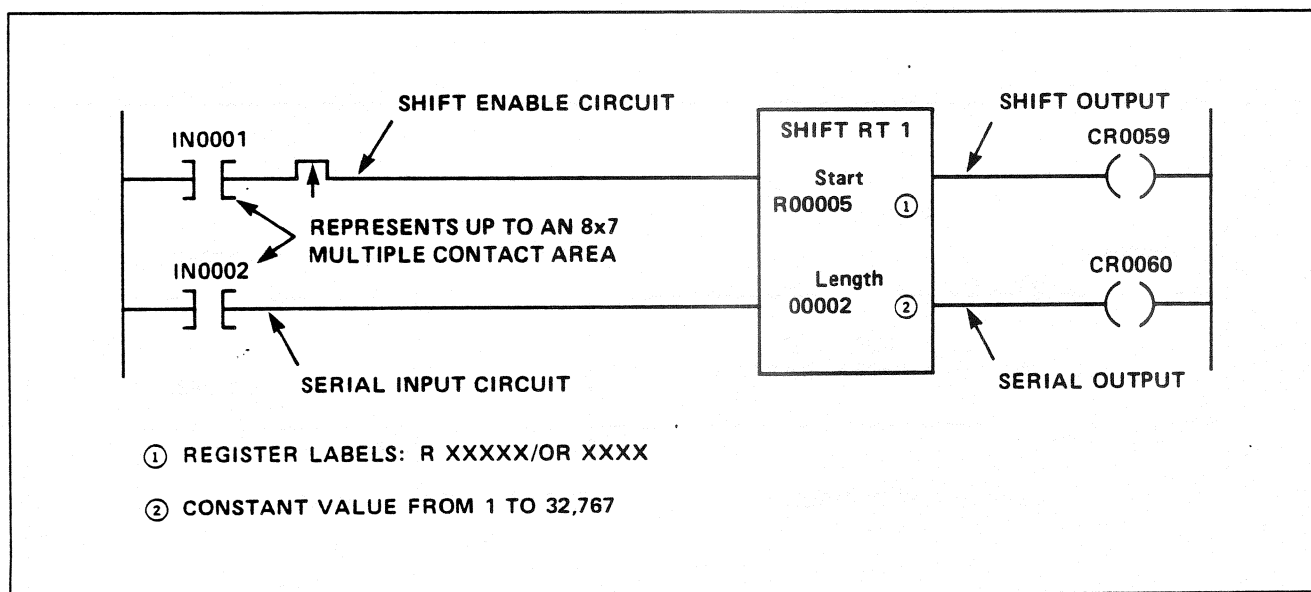
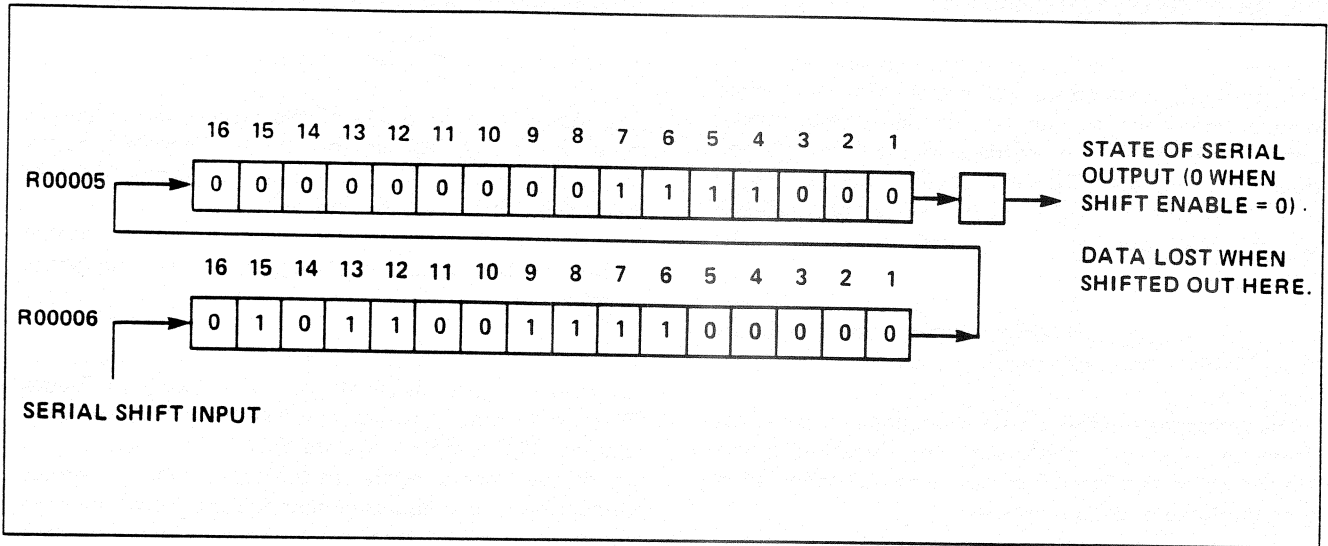

Figure SR-1. Shift Right 1 Circuit (Typical)
Figure SR-2. Shift Right Operation
Observe the typical Shift Right function shown in Figure SR-1 and SR-2. Note the following 5 points:
2. The number of consecutively numbered registers in the string (that is, the length) is a constant. The Length of the shift register shown in Figure SR-1 is 2. (Holding registers R00005 and R00006 have been assigned in the Figure.)
3. When the shift enable circuit conducts, the data contained in the string of registers selected is shifted one place to the right, as shown in Figure SR-2. The data is shifted one place, or "bit position," for each scan of the ladder diagram program. The Transitional element in the shift enable circuit of Figure SR-1 causes the shift register to be shifted only once—when the enable circuit first conducts, **not** during each scan.
holding register R00006 in the example of Figure SR-1. The input is 1 if the serial input circuit is conducting, or 0 if the serial input circuit is nonconducting.
The input state (0 or 1) of the serial input circuit is input to the shift register when the shift enable circuit is conducting. Figure SR-1 shows a Transitional element used in the shift enable circuit which allows the register to shift 1 place to the right once when the shift enable circuit first conducts, not during each scan of the ladder diagram.
5. The serial output simply monitors the "output" of the register from bit 1 of register R00005 in Figure SR-2. The serial output is conducting and nonconducting, depending on the state of bit 1 when shifted out of the lowest register in the string, where 1 equals conducting, and 0 equals nonconducting. When the next new data is shifted from bit 1 of the lowest numbered register, the output data is lost.